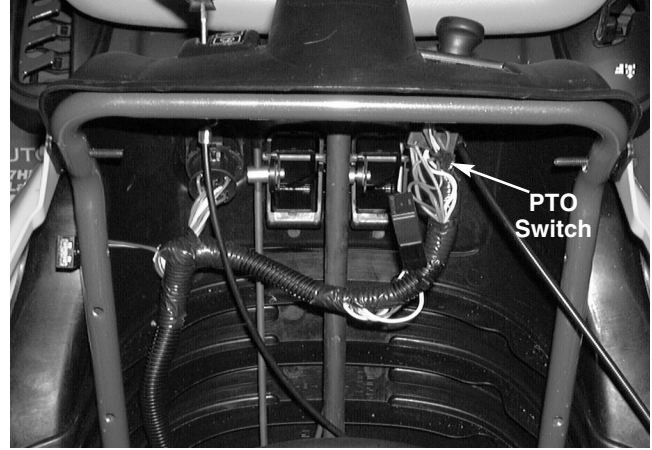

FIGURE 11.
- 1). Locate and remove the PTO switch and wiring harness connector. See figure 11.